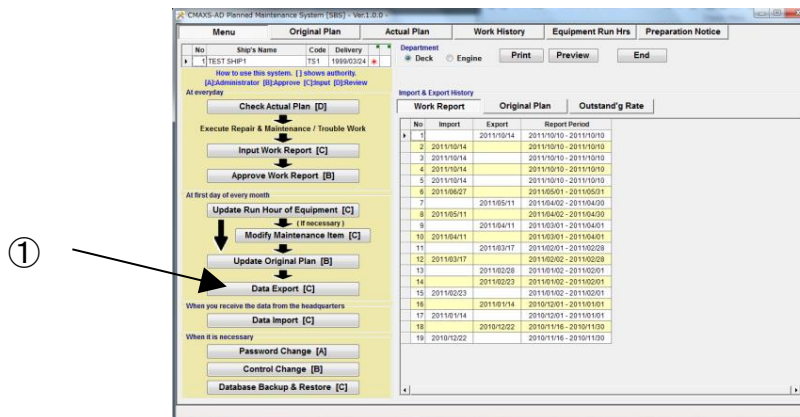

Fig.12-3 Menu Screen
(1) On the "Menu screen"(Fig.12-3), select [Data Import].